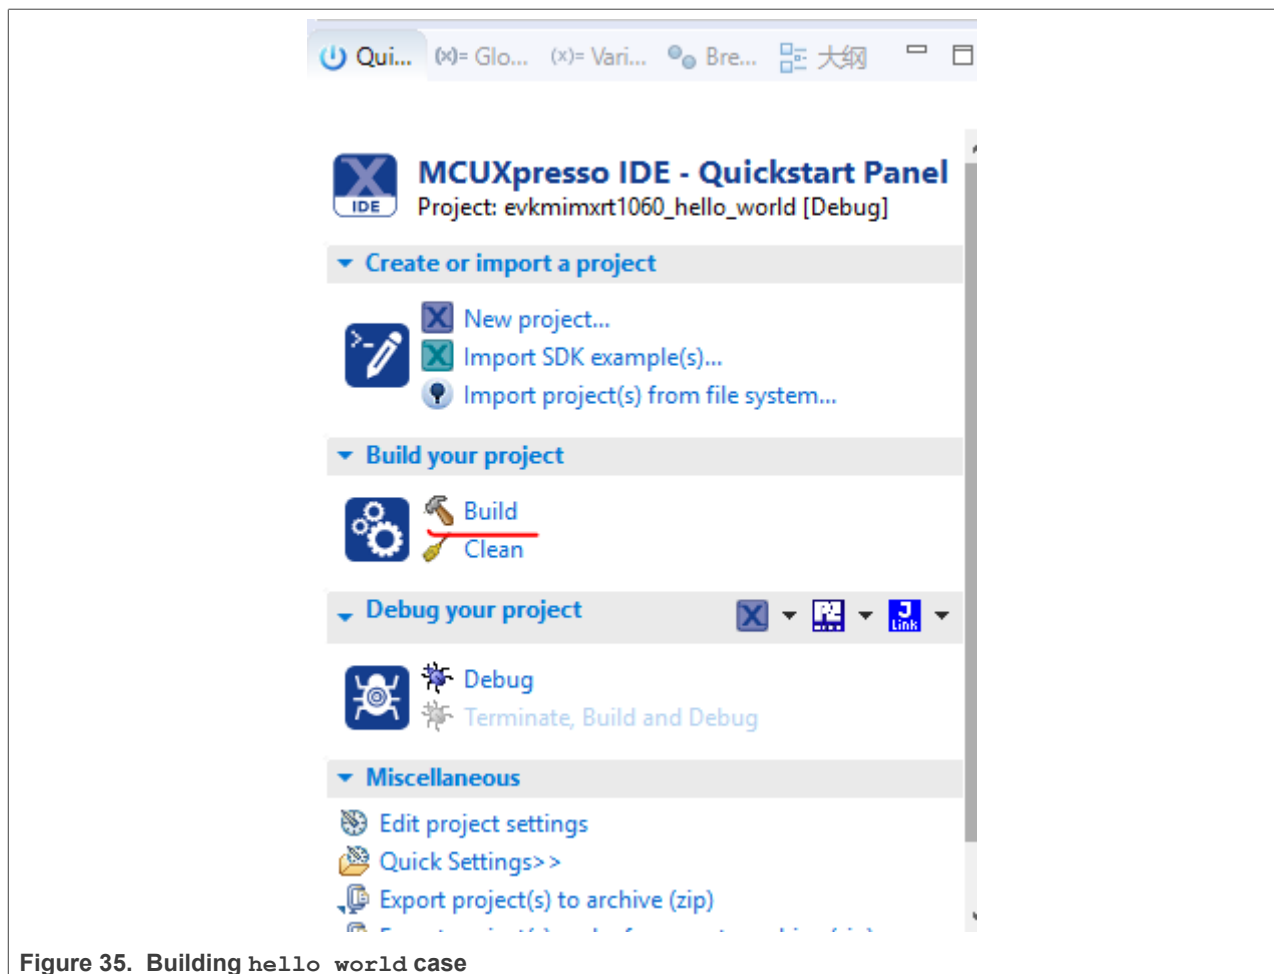

Figure 35. Building hello world case
6. On the **Quickstart** panel, click **build** `evkmimxrt1060_demo_apps_hello_world [Debug]` , as shown in Figure 35.